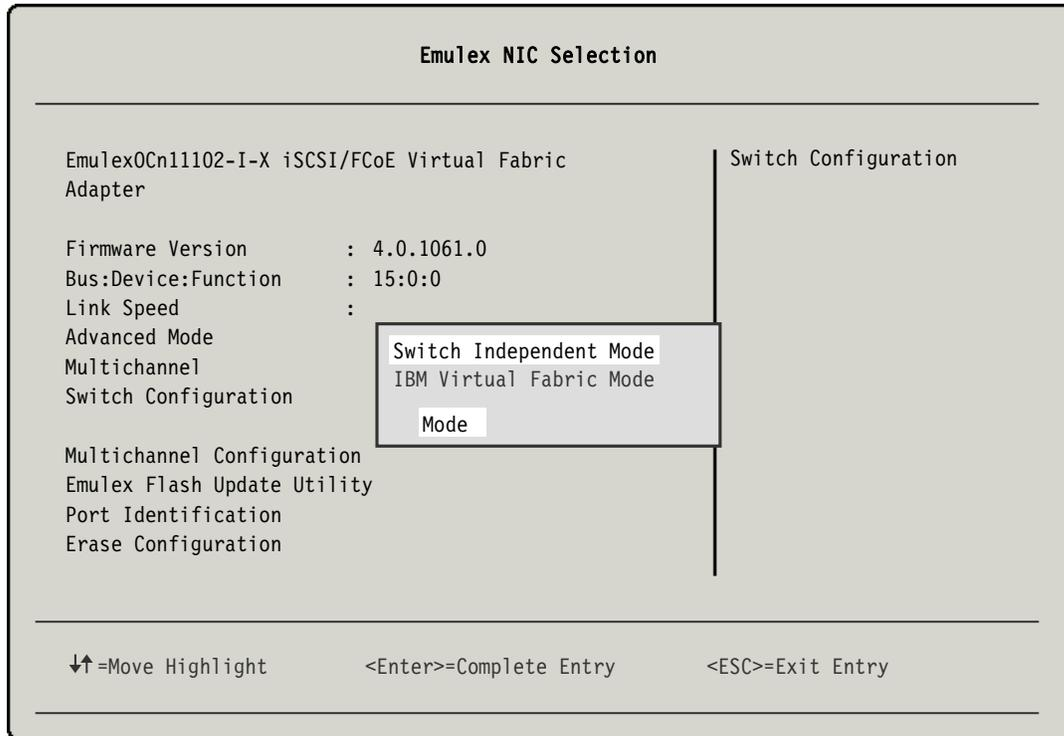

Figure 10-36 Emulex NIC Selection panel
6. In the Emulex NIC Selection panel (Figure 10-36):